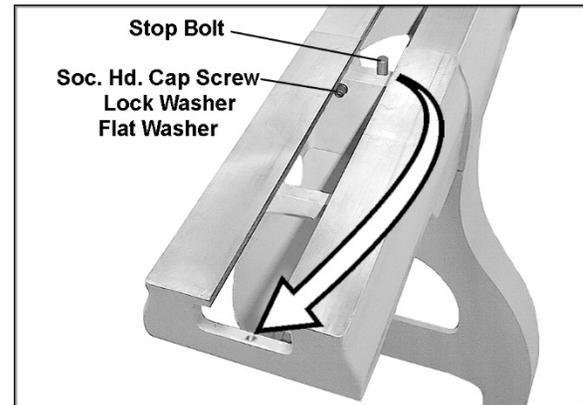

Figure 7 (optional 18" bed extension shown)
2. Have an assistant hold the bed extension flush to the end of the lathe bed and insert three 3/8 x 1-3/4 socket head cap screws, three 3/8 lock washers and three 3/8 flat washers, through the holes in the bed extension into the threaded holes on the lathe. See Figure 7.
- Unscrew the stop bolt from the lathe bed (Figure 7) and screw it into the hole at the end of the bed extension.